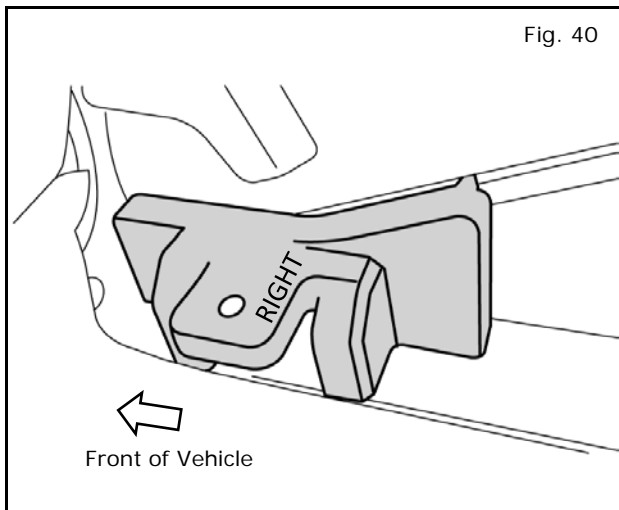

Fig. 40
- b) Install the Left and Right Subwoofer Wings into the slotted side groves of the vehicle trim panels as shown. (Figure 40)